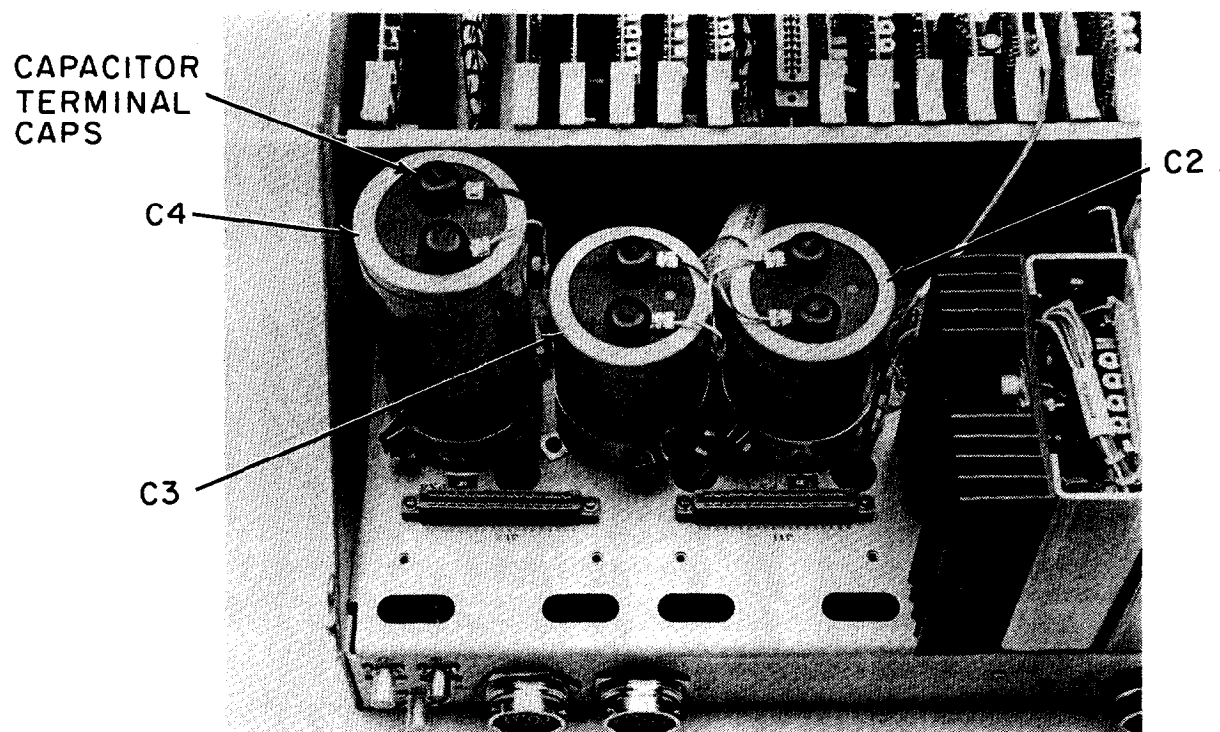

FIGURE 2
C. Remove capacitors C2, C3, and C4, Figure 2.